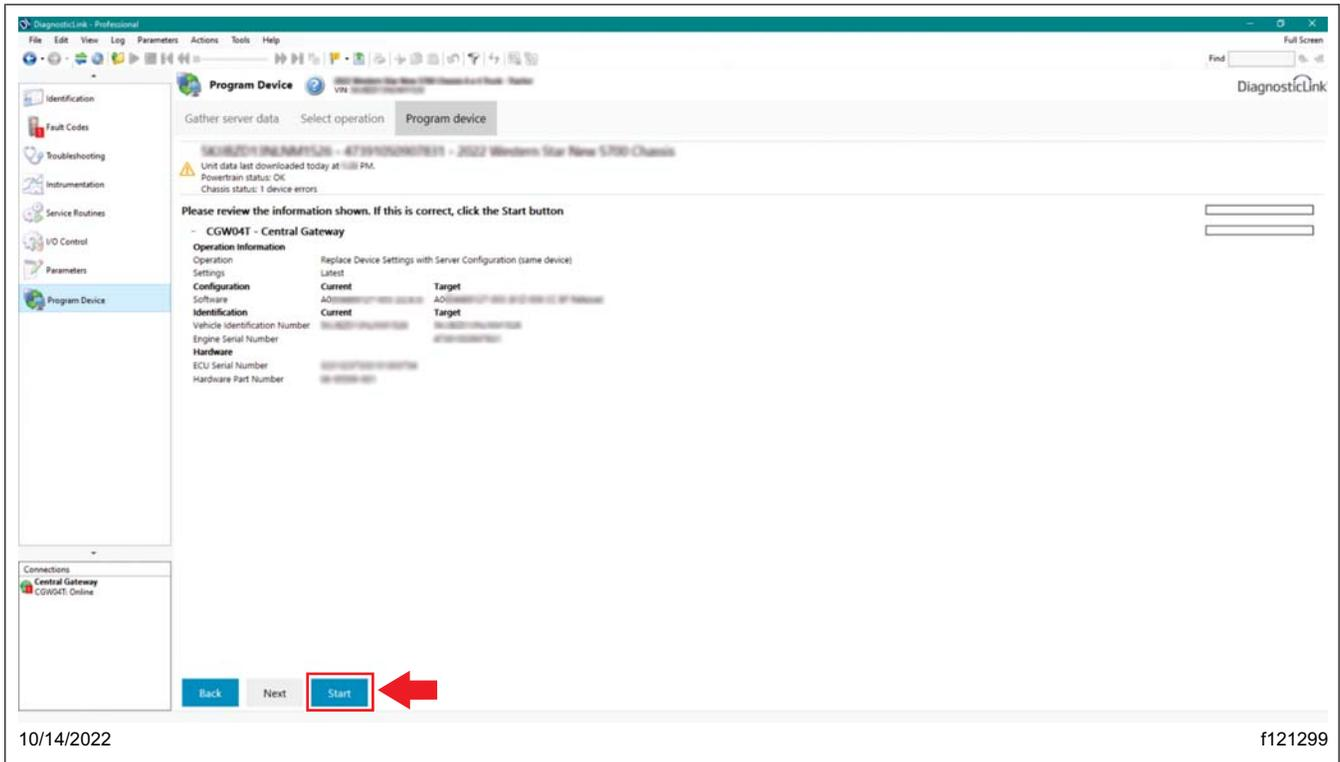

Fig. 17, Starting to Flash CGW04T
21.4 Select 'Start' to start flashing the CGW04T. See Fig. 17.